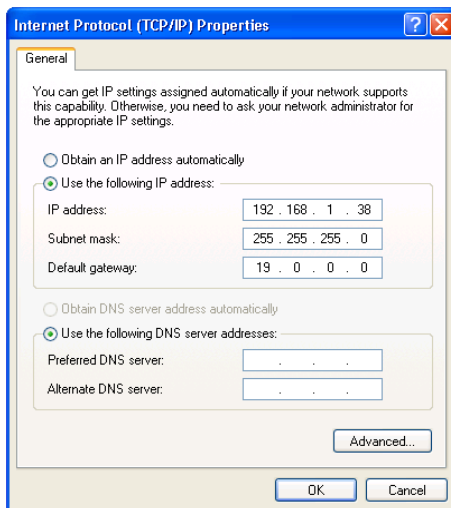

Figure 11: Internet Protocol (TCP/IP) Properties Window
7. Select **Use the following IP address**, and fill in the details as shown in Figure 11.